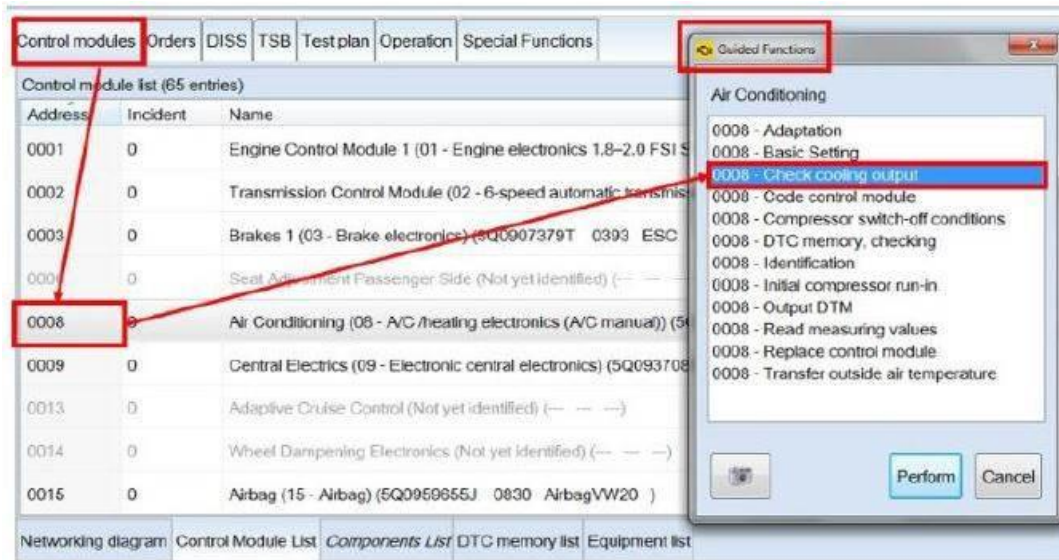

Figure 1: A.C. Performance test CC, Tiguan, Golf, Golf SportWagen, Jetta SportWagen, Jetta, New Beetle, NBC, Tiguan LWB, Atlas, Atlas CrossSport, Arteon.
- Select Check cooling performance from the Guided functions menu and select perform (Figure 1).